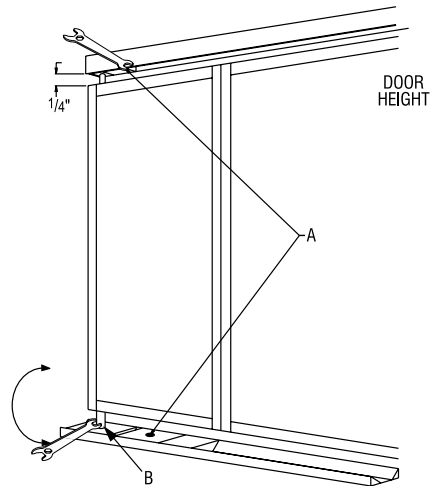

FIGURE 6
HORIZONTAL: Doors should be centered in the opening with 1/8" gap between pairs of doors. Use small end of wrench to loosen the top and bottom pivot bracket screws (A) to adjust (Figure 6).
VERTICAL: To raise doors, place the large end of the wrench on bottom pivot hex bolt (B) and make several ratchet-like turns (Figure 6). Turn wrench over to reverse direction of adjustment.